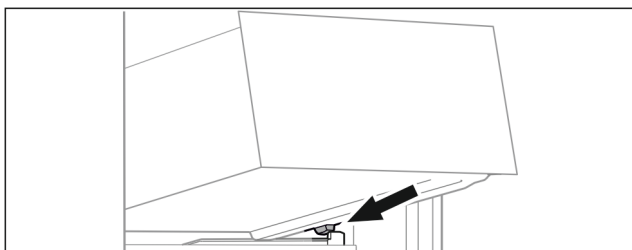

Fig. 17
- Place drawer on the moulded ribs behind the stoppers with the drawer tilted up at the front *Fig. 17 (1)*.